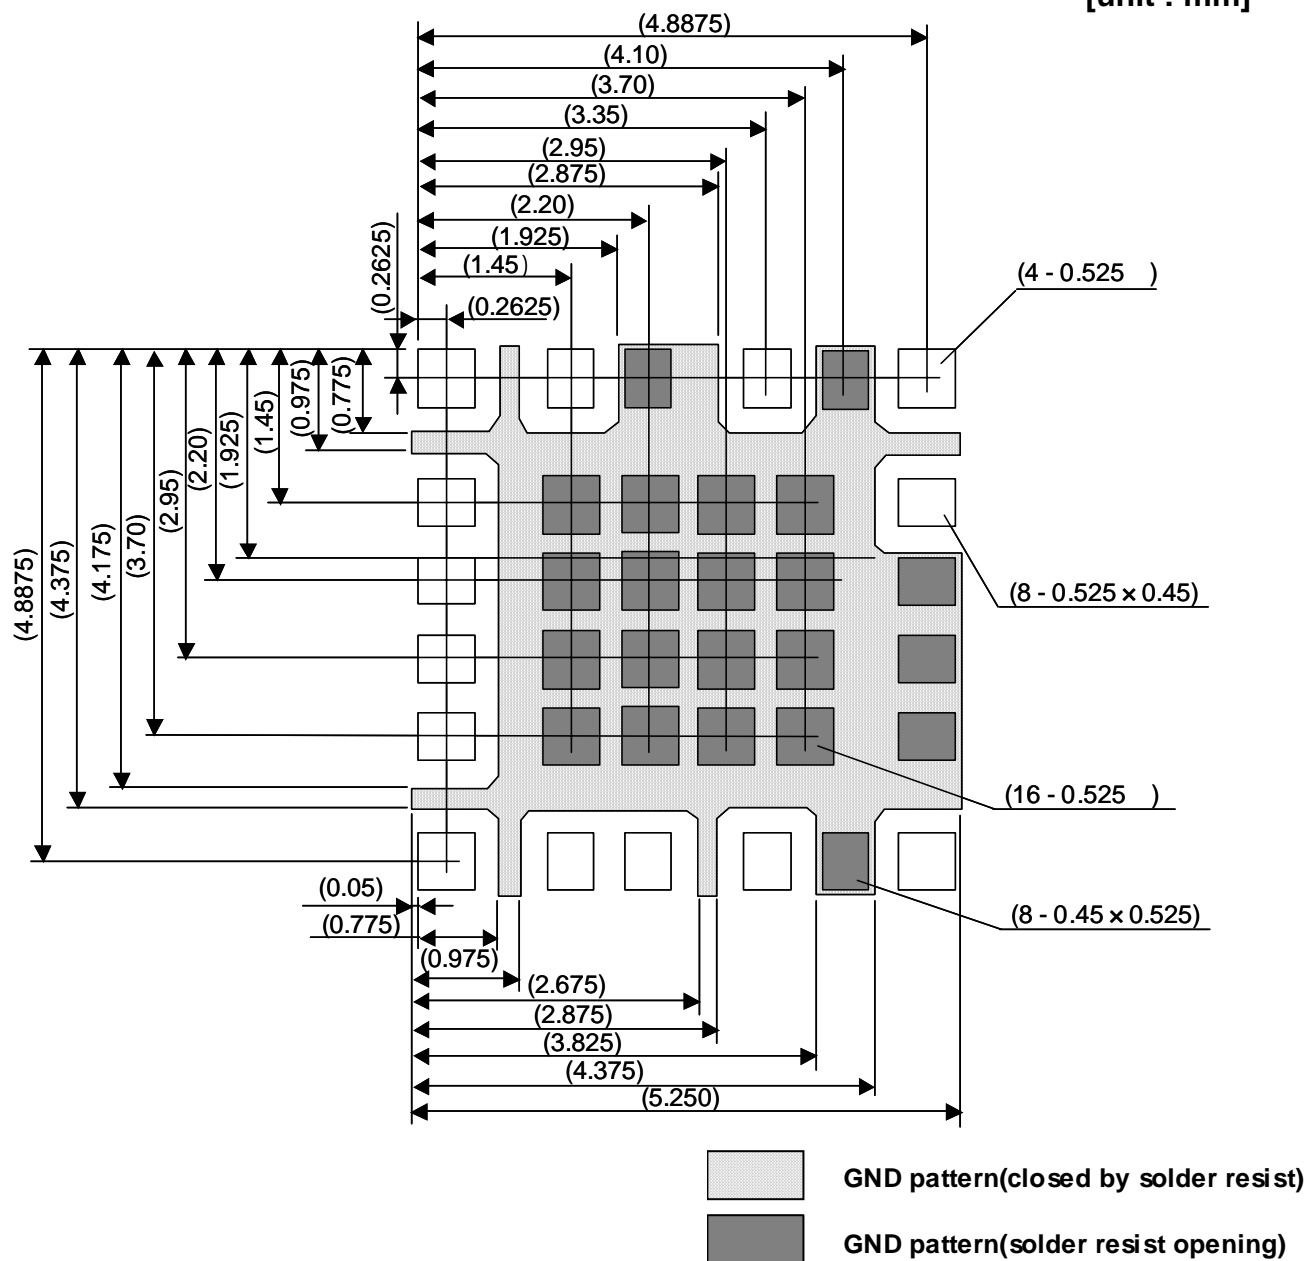

Fig.3 Recommended PCB foot print pattern
- 2) Recommended foot print pattern is shown in Fig3. To get good thermal diffusion and stability, all the GND terminals must be soldered to PCB.